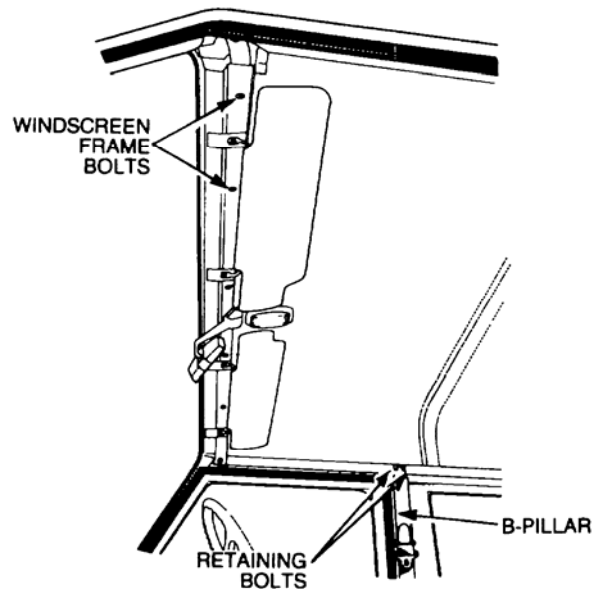

Figure 13 Removal of the Windscreen Frame Bolts
- v. Remove the eight bolts securing the roof panel to the top of the windscreen frame (Figure 13) and discard the sealing strip.
- w. Remove the four nuts and bolts that secure the roof panel to the top of pillars B (Figure 13) and C (opposite side of vehicle).